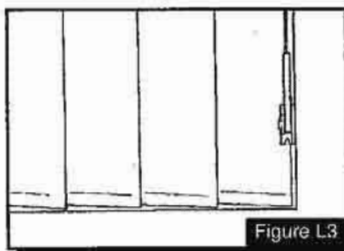
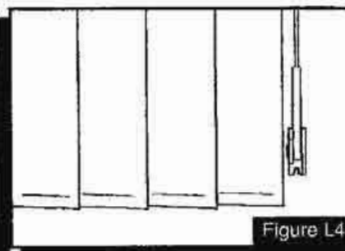

Figure L3
Figure L4
2. Mount the tension pulley to the floor, wall or window frame using the two 1" Phillips screws included. (Figure L1 B) There are two mounting options to choose from: Inside Mount (Figure L3) or Outside Mount (Figure L4).